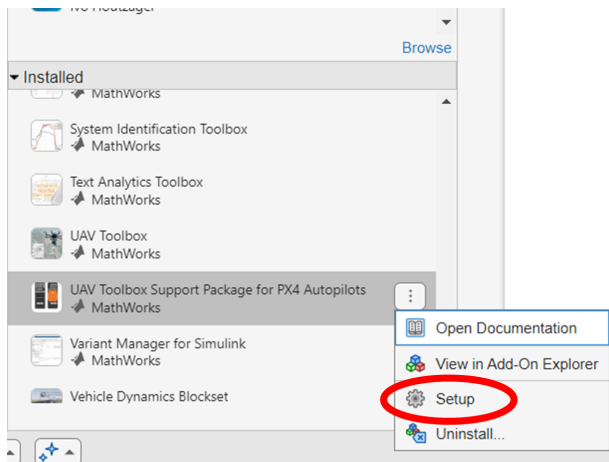

Figure B.1: Screenshot of the setup initiation from the manage add-ons menu.
2. Select the gear icon in the add-on manager next to the UAV Toolbox Support Package for PX4 Autopilots as shown in Figure B.1. This will open the Hardware Setup screens.